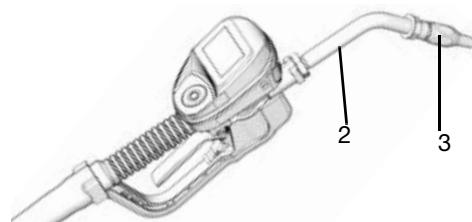

FIG. 11
1. Thread nozzle (3) onto extension (2) (FIG. 11).